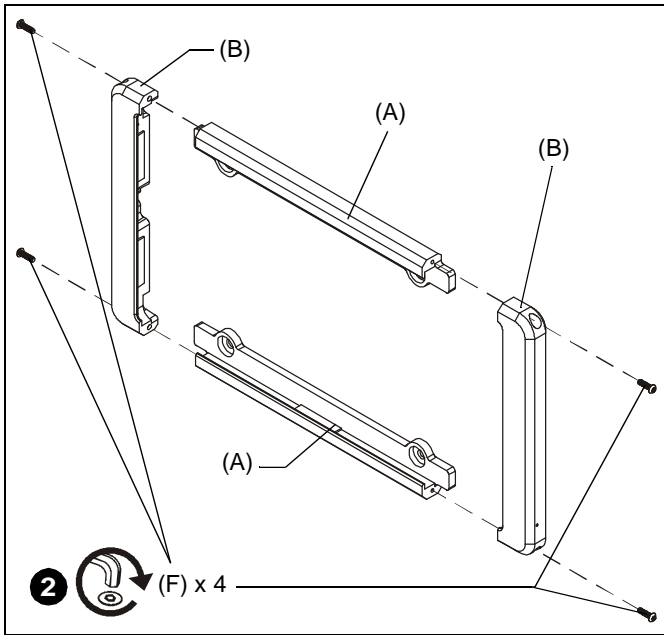

Figure 1
1. Assemble two side assemblies (A) to two end assemblies (B). (See Figure 1)
2. Fasten side and end assemblies together using four 06-32 x 1/4" buttonhead security screws (F). (See Figure 1)